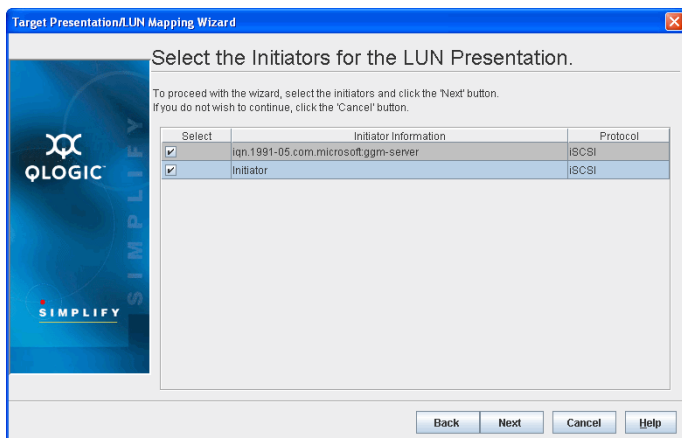

Figure 10. Target Presentation/LUN Mapping Wizard
- d. On the Select the Initiators for the LUN Presentation window (Figure 10), select the initiators for the LUN presentation, and then click **Next**.